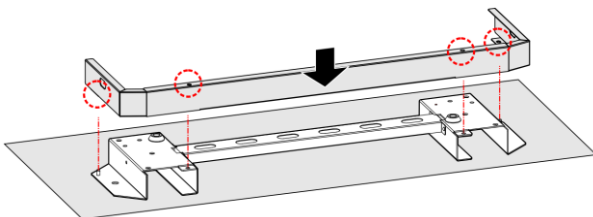

Figure3-15 Install cover plate of base module
Step 6 Lead the cover plate into the base module and fix it by screws, as shown in Figure3-15.